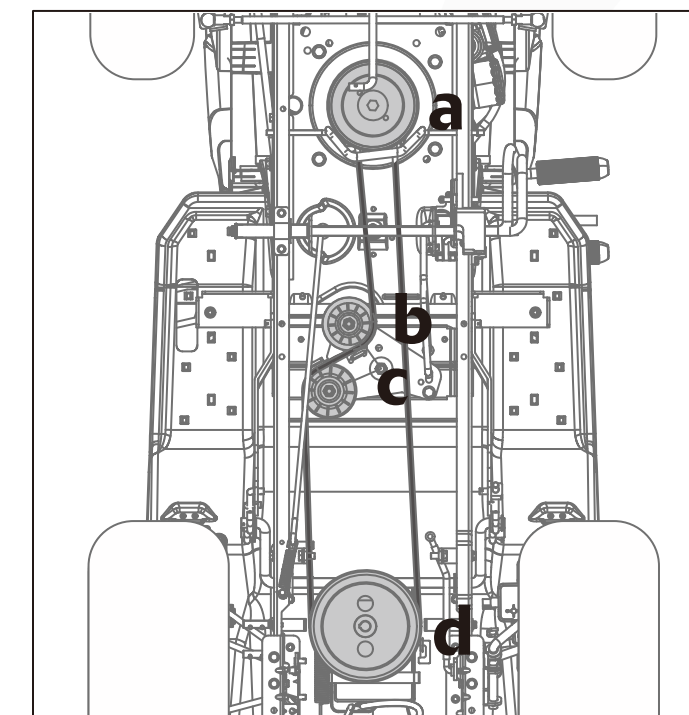

Fig. 27
2. Remove the drive pulley assembly (a, Fig. 27) by removing the bolt that fastens it to the engine output shaft.
3. Remove the two pulleys (b and c, Fig. 27) by removing the nuts that fastens them to the mounting bracket.
4. Slip the belt off the transmission pulley. (d, Fig. 27)